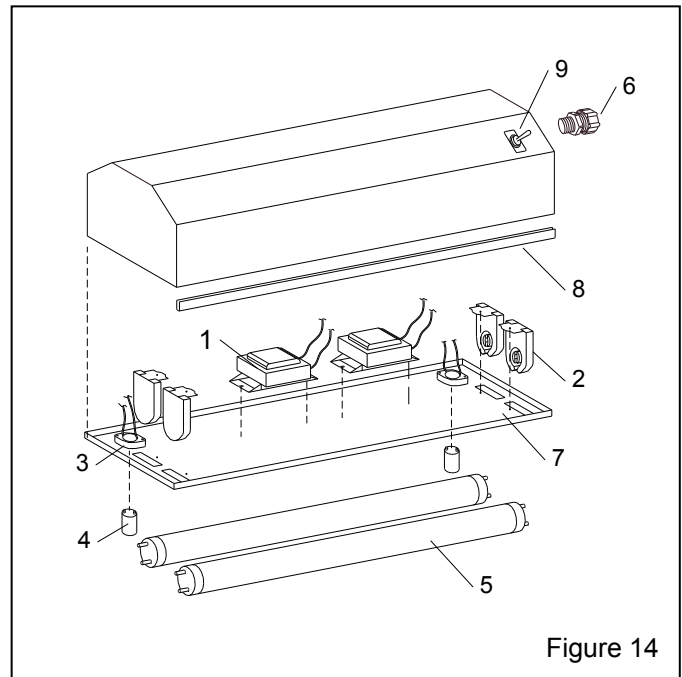

Figure 14
9.6 Light Shield Assembly, Figure 14